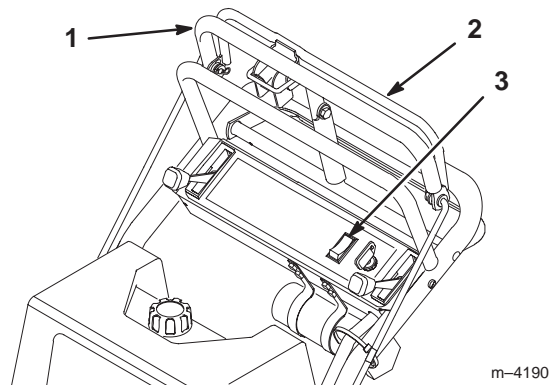

Figure 8
1. Pull on the upper control bar to stop the machine (Fig. 8).